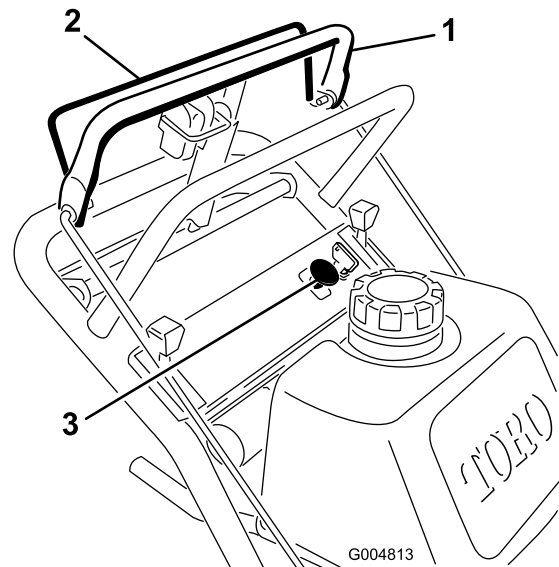

Figure 9
1. Release the upper control bar to stop the machine (Figure 9).
2. To engage the blades, squeeze blade control bail against the upper control bar (Figure 9).
Release the blade control bail to disengage the blades (Figure 9).